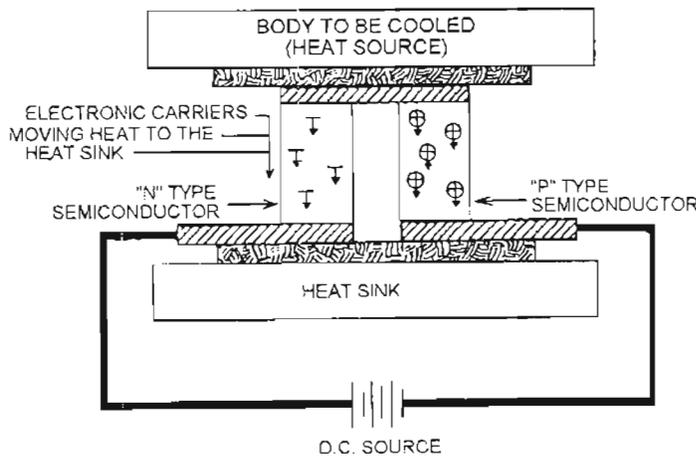

Figure 3-2. Thermoelectric cooling/heating couple.
b. The thermoelectric cooling couples (fig 3-2) are made of two elements of semiconductor material, primarily bismuth telluride, heavily doped to create an excess (N type) or deficiency (P type) of electrons. Heat absorbed at the cold junction, is pumped to the hot junction at a rate proportional to carrier current passing through the circuit. Couples are connected in series electrically and in parallel thermally to form a thermoelectric module. The direction of the current flow dictates the heating mode of the load compartment under low temperature environmental conditions.